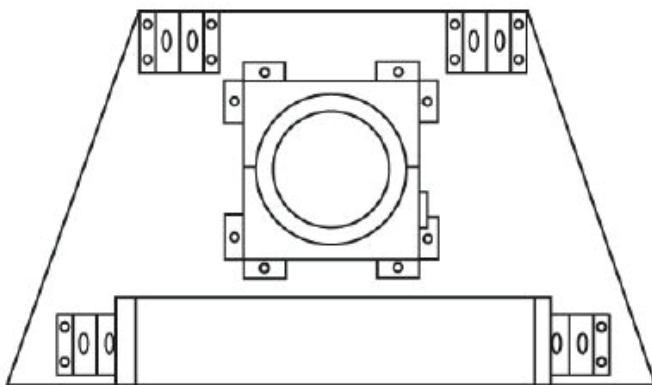
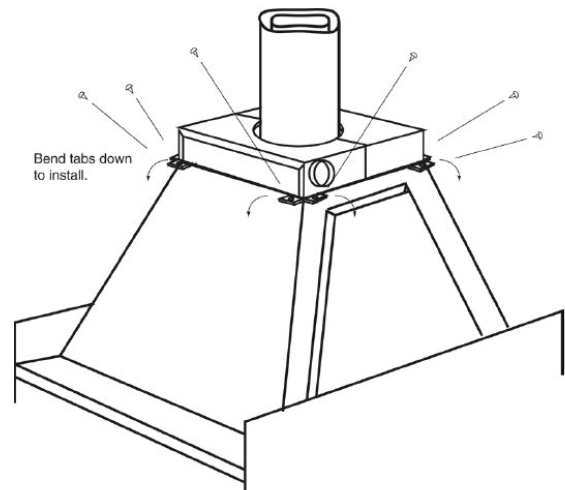

Figure 2 CAK4A - On Top of Fireplace
Figure 3 CAK4A - On top of See-Through Fireplace
- Once the chimney pipe is installed, place the box on top of the fireplace around the chimney pipe and attach the two halves of the CAK together. See Figures 2 and 3. Installation on a see-through fireplace will require bending the tabs down to match the angle of the top pan/smoke shield. See Figure 3.